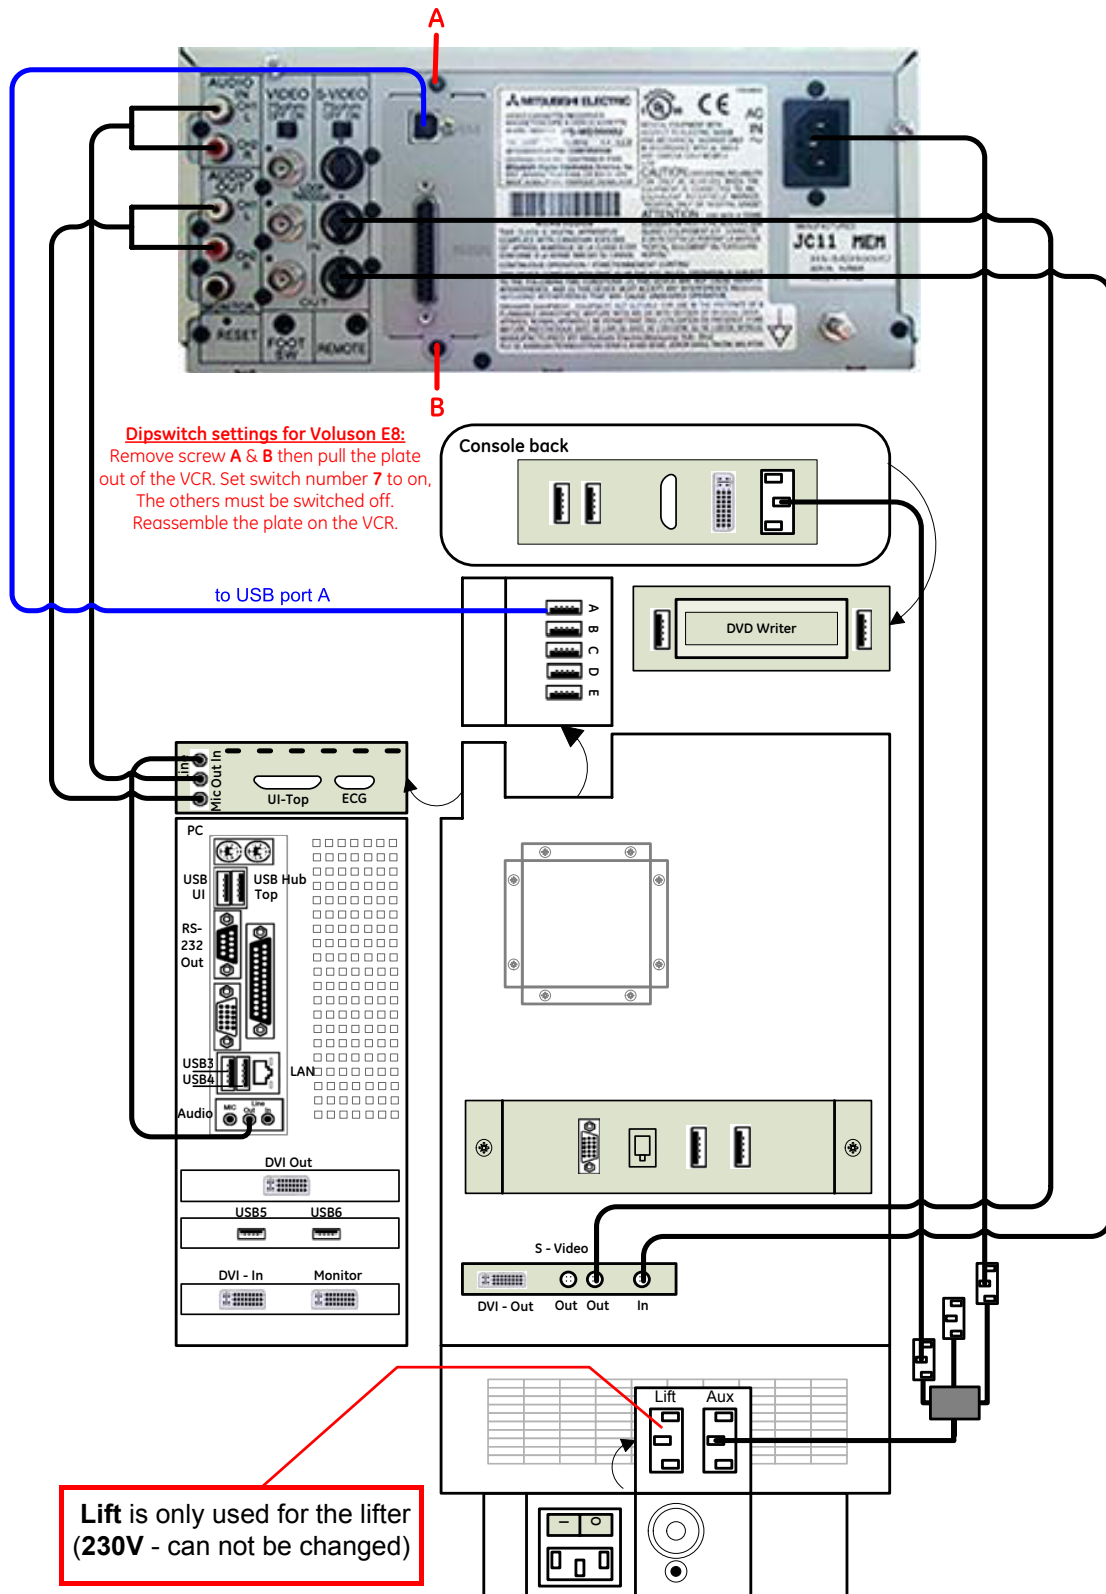

Figure 3-18 Video Recorder connection (BT06: KONTRON PC-Motherboard installed)
- if "**Kontron**" PC-Motherboard is installed, see: Figure 3-18 on page 3-25.